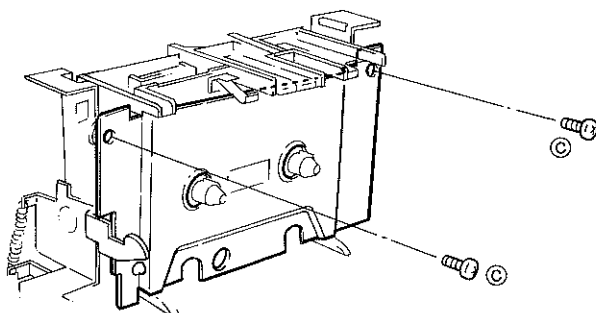

Fig. 7
a. Remove 2 screws (C) in fig. 7 and then remove the back plate.